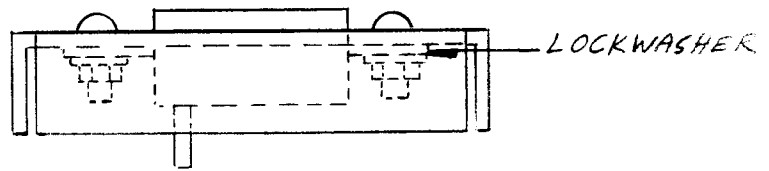

Fig. 4
4. Using two each 3/8" #6 screws, lockwashers and nuts, mount the socket to the relay bracket as per Fig. 4.